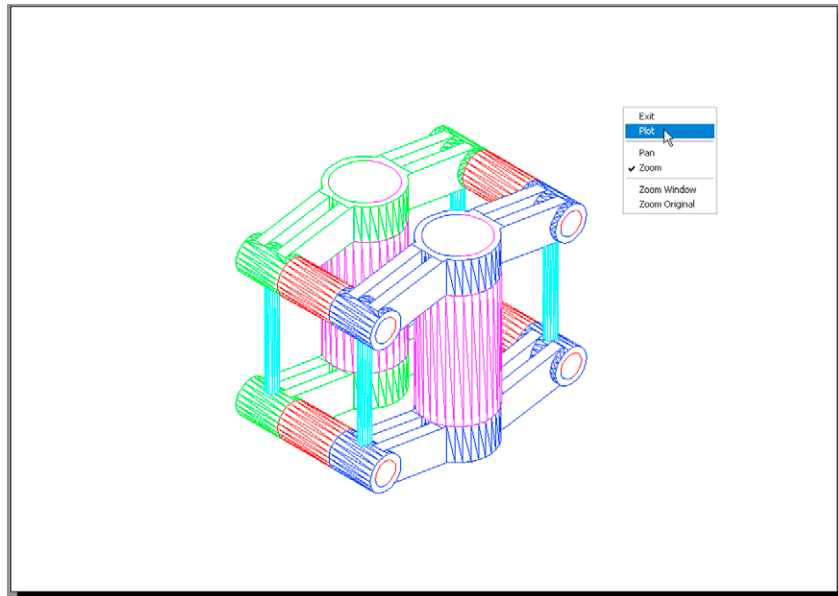

Fig. 19.12 Third example – Printing/Plotting
Third example – Printing/Plotting (Fig. 19.12)
4. If satisfied with the preview (Fig. 19.12), *right-click* and *click* on **Plot** in the menu which appears. The drawing plots.
Polygonal viewports (Fig. 19.12)